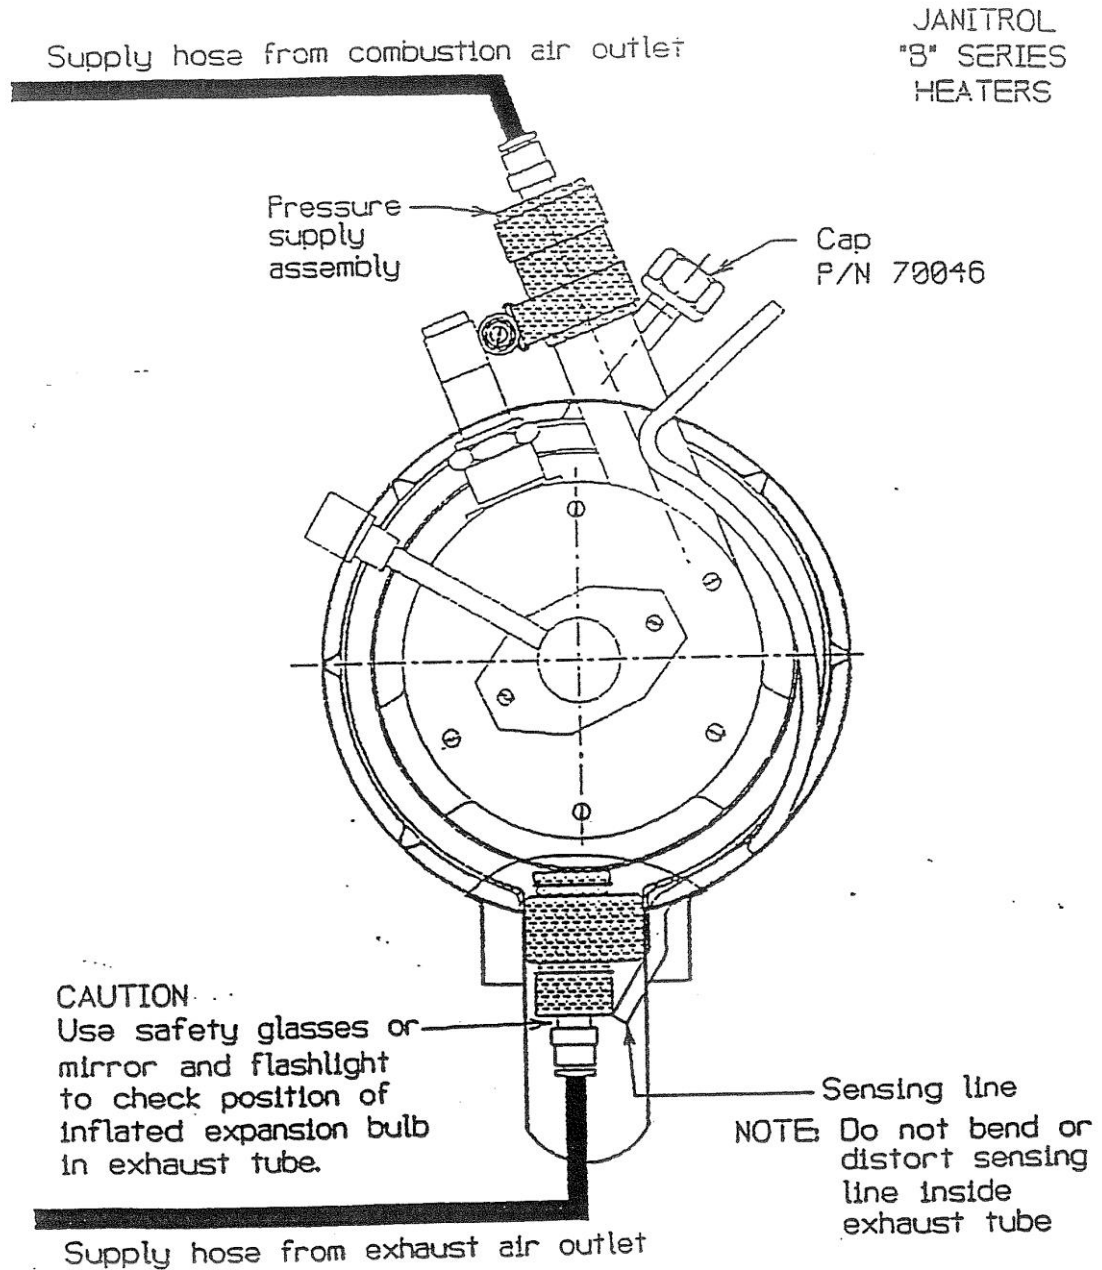

Fig. 2
- Loosen and remove flex tubing, elbows and adaptors (air flow switch, (Fig. 2) that may be mounted between the combustion air and the heater.
- On units, where applicable, install and tighten cap P/N CD70046 on fitting where combustion air pressure switch was mounted (See Fig. 2).
- Loosen the overboard drain line from the heater and install a pipe plug P/N CD70048 if the drain fitting is equipped with a ¼” pipe thread, a pipe plug P/N CD70047 if the drain fitting has a 1/8” pipe thread, or a flared cap of proper size P/N CD70038 or CD70039. **NOTE:** If the drain fitting is inaccessible at the heater, it may be sealed at the aircraft skin line. On heater P/N 81D94, two (2) drain lines must be plugged.
- Prior to inflation, visually inspect to be sure that the expansion bulb is inserted past the 1/8” or 3/16” diameter sensing line that sticks into the exhaust tube. Use safety glasses or mirror and flashlight to check position of bulb in exhaust tube. (See Fig. 2)